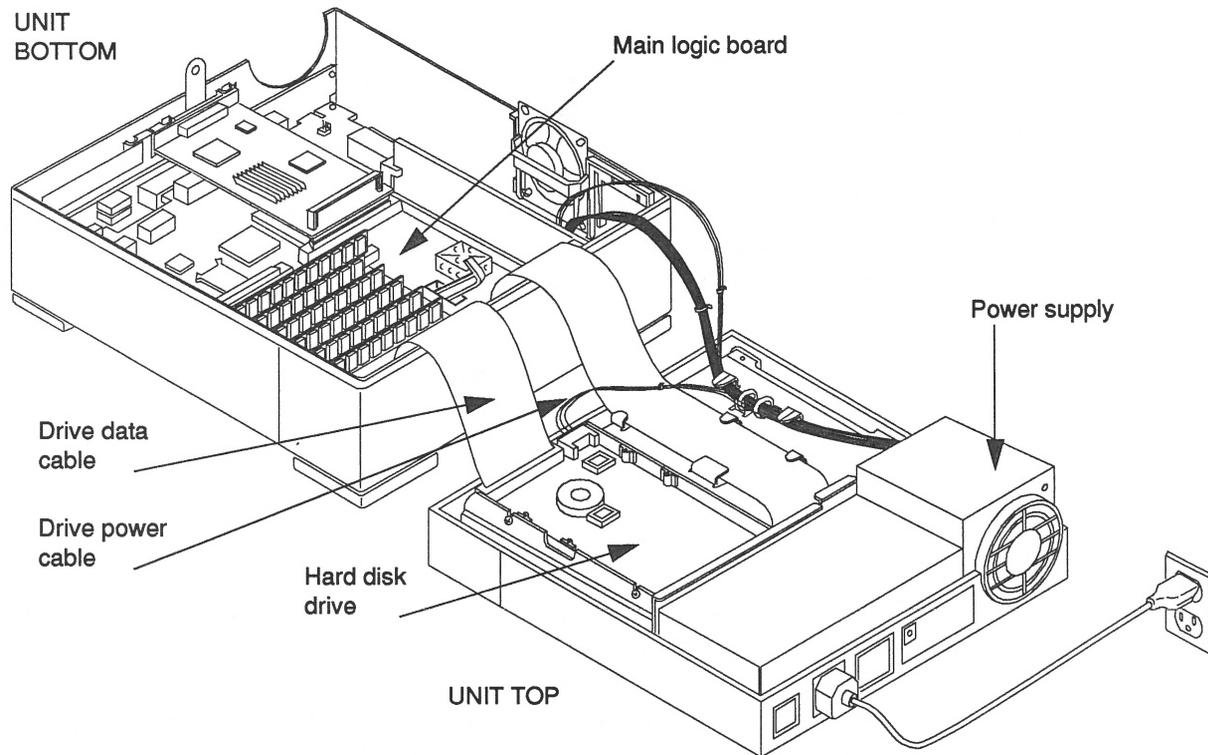

Figure 7-2 View of Opened System Unit
Refer to Figure 7-2 to see the various subassemblies of these systems, including the location of the power supply.
2. **Attach the end with the adhesive copper strip to the metal casing of the power supply in the system unit. See Figure 7-2.**
- 7. Attach the drive data cable to the main logic board, and attach the internal drive power cable to the disk drive. Refer to Figure 7-2.**